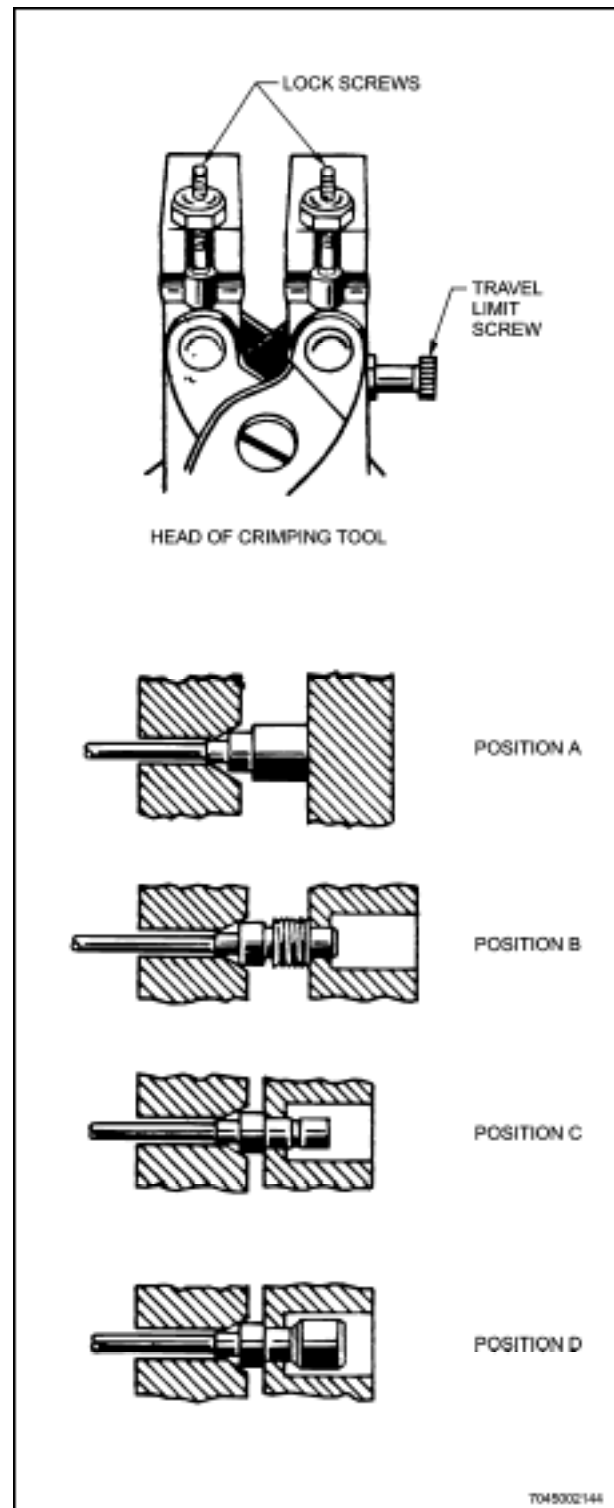

Figure 12-38 Crimping Subminiature RF Connectors
- a. Open jaws of tool 227-900 by loosening nut and pulling down lock screws (see Figure 12-38). Place the connector assembly in jaws, and set optimum distance between jaws for each assembly by means of the travel limit screw. Refer to connector placement Figure 12-38, A, B and C for straight plugs and jacks, and Figure 12-38, D for angle plugs.